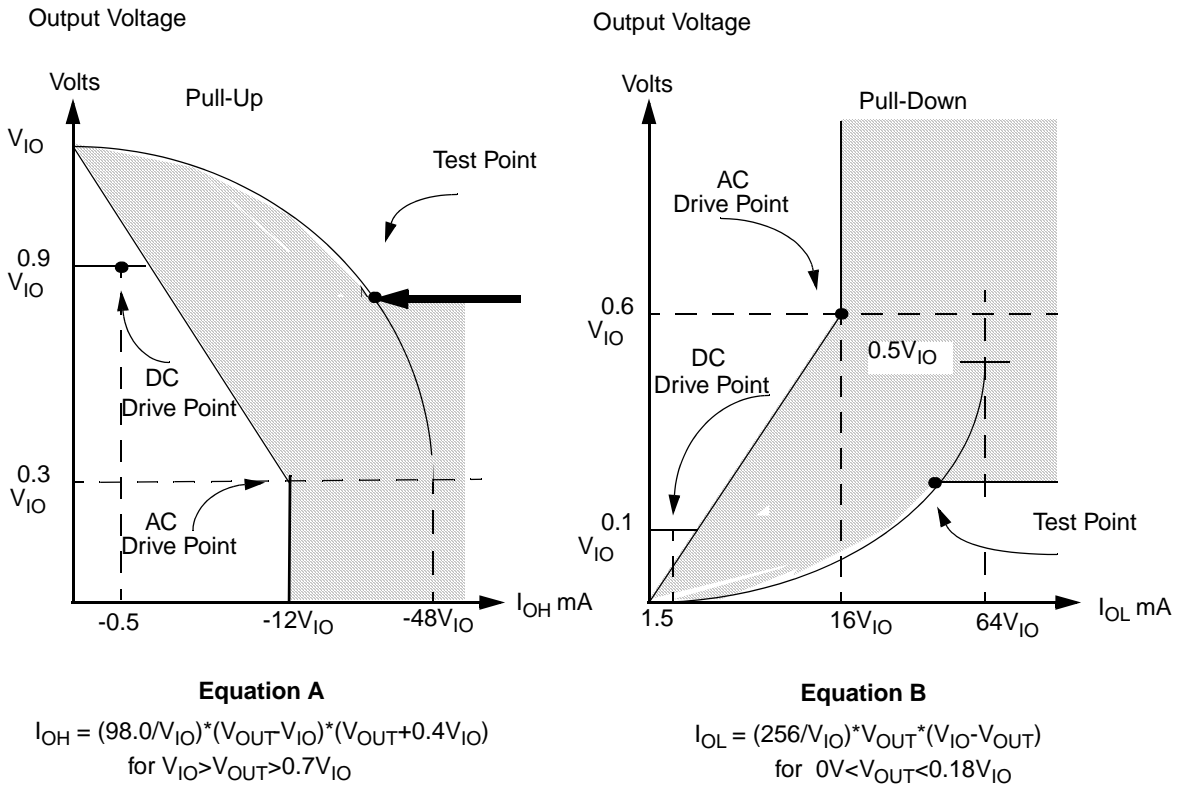

Figure 9-13. V/I Curves for PCI Output Signals
All parameters in Table 9-17 are not 100% tested. The parameters in this table are further described in Figure 9-13.
- Note 1. Refer to the V/I curves in Figure 9-13. This specification does not apply to PCICLK0, PCICLK1, and PCIRST# which are system outputs.
- Note 2. Maximum current requirements are met when drivers pull beyond the first step voltage. Equations which define these maximum values (A and B) are provided with relevant diagrams in Figure 9-13. These maximum values are guaranteed by design.